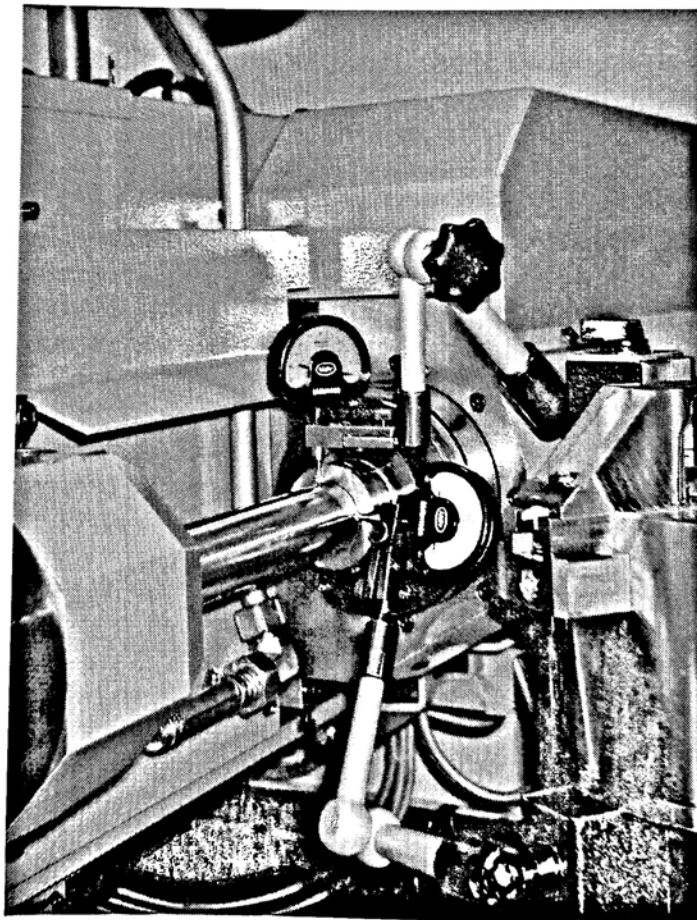

Figure 11 Clamp measuring arbor in the main bearing with the counter-bearing approached but not clamped
- Place dial gauges against the measuring arbor (see figure 11)